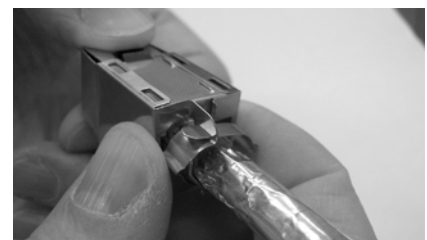

Figure 24
12. The top and bottom of the shield should be on the inside of the tabs on the left and right sides of the shield. Lead shield strain relief belts into slots and continue closing until the holes in the tabs snap over the latches. See Figure 24.